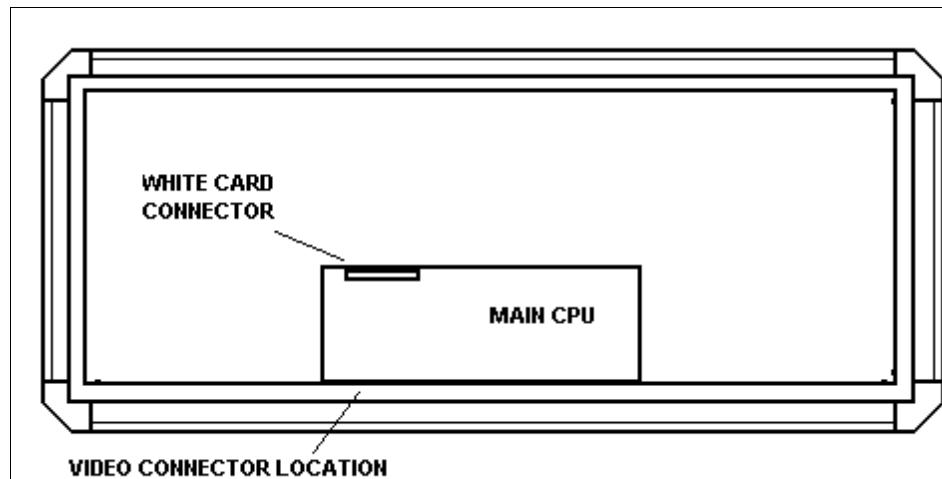

Figure A.7 Location of CPU and Video cards
- 4.** Locate the Main Processor Circuit card. (See Figure A.7)
- 6.** Insert Secondary Video card, aligning the video connector with the back panel and the white card connect facing the processor card. Press the white connector together. (see Figure A.7 on next page)